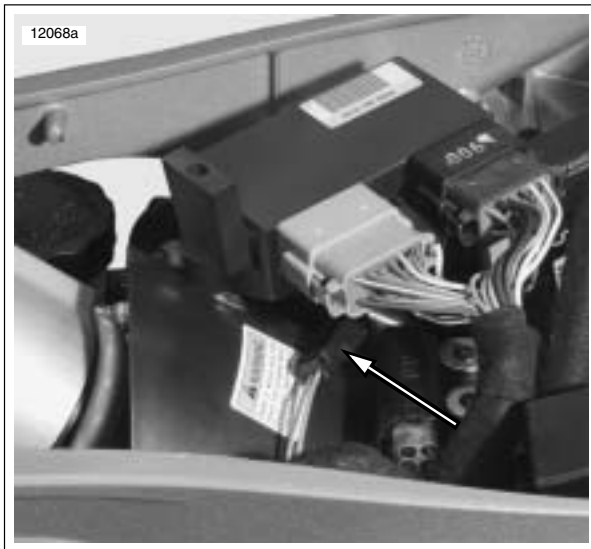

Figure 2-56. Brake Light Switch Connector
3. See Figure 2-56. Disconnect brake light connector from under seat in the front of the battery.
5. See Figure 2-56. Connect brake line switch connector beneath seat.